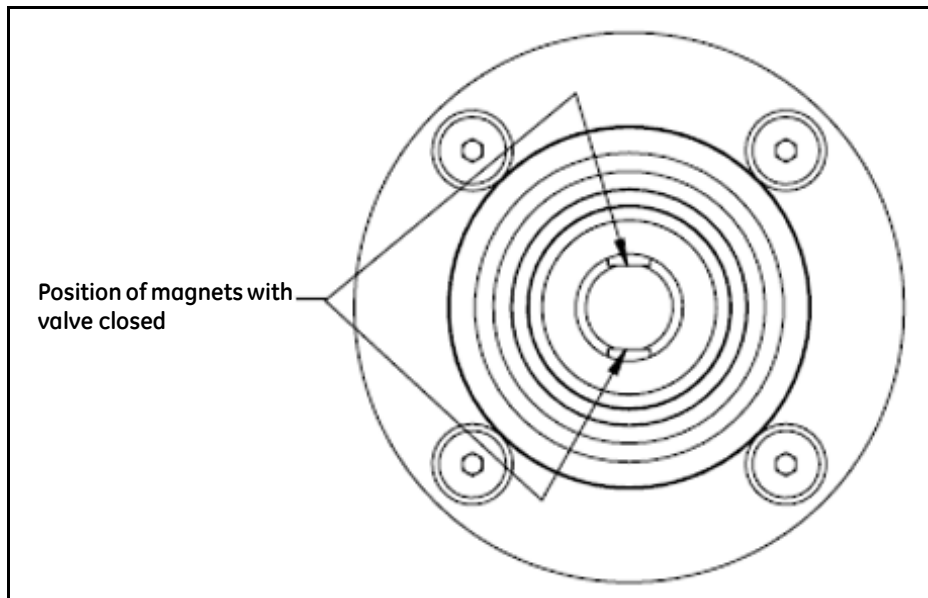

Figure 30 Magnet Position with Valve Closed
5. Ensure the turnbuckle assembly is parallel to the stem and the magnets are in the valve closed position (Figure 30) and connect to take-off bracket.